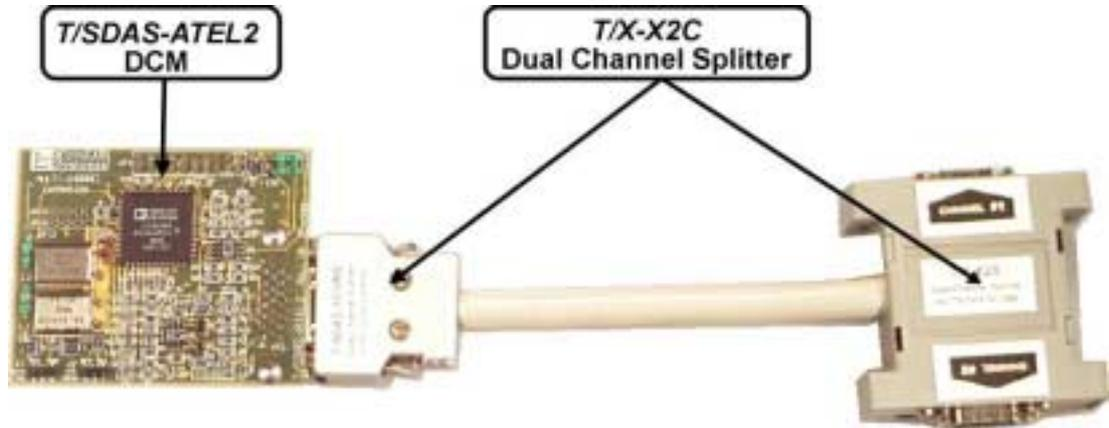

Fig. 1-8. T/SDAS-ATEL2 DCM with T/X-X2C dual-channel splitter.
- *T/X-X2C* dual-channel splitter (see Appendix B and fig.1-8) in order to convert dual-channel I/O connector to two single-channel I/O connectors, which are compatible with that for *T/SDAS-SCOM1* single-channel speech/fax/modem DCM and for *T/SDAS-SCOM2* dual-channel speech/fax/modem DCM